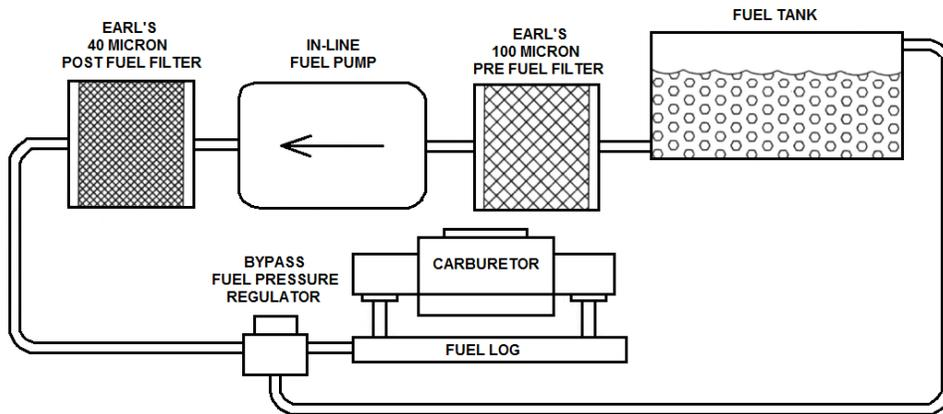

Figure 4a (Carb applications only)
5. Connect the fuel supply line from the tank to the pre-filter and then **to the inlet port of the pump.** Earl's pre-filter # 230628ERL (100 micron) can be connected directly to the inlet of the pump using O-ring port-to-port adapters # AT985109ERL (pump # 1200600ERL) or AT985108ERL (pump # 1200890ERL). Earl's post-filter 230616ERL (40 micron) or 230608ERL (10 micron) can be connected directly to the outlet of the pump using an O-ring port-to-port adapter AT985108ERL (both pumps 1200600ERL or 1200890ERL). Connect the main fuel feed line to the outlet port of the pump, then to the post filter. See **Figures 4a and 4b.**